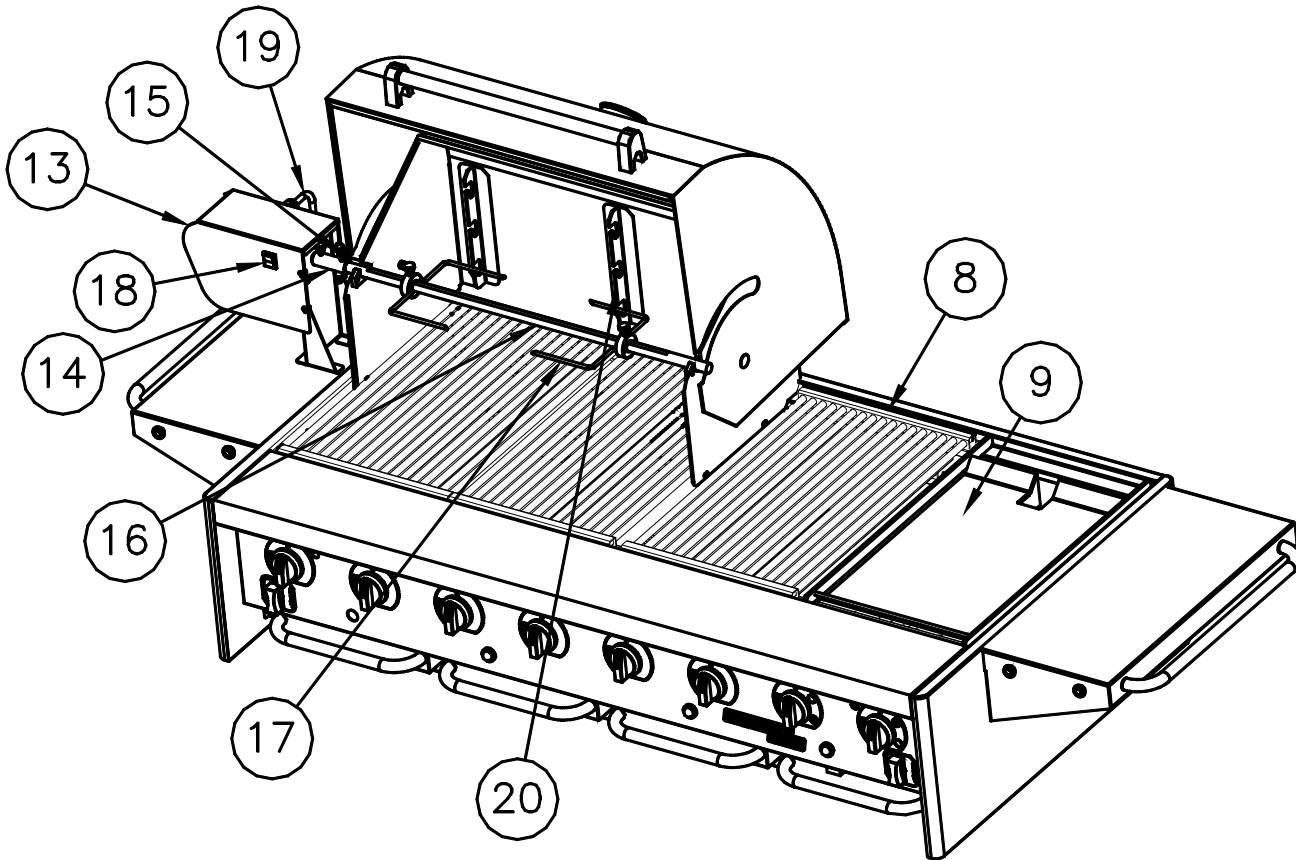

FIGURE 6
To assemble the rotisserie refer to the following steps, refer to figure 6 unless otherwise instructed.
The rotisserie motor housing assembly (13), shown on the left, is fixed to the side shelf with hex head bolts. It can be removed with the use of simple tools for storage. The rotisserie is shown assembled in figure 6, the legend below identifies the parts for reference.
ROTISSERIE ASSEMBLY LEGEND, FIGURE 6